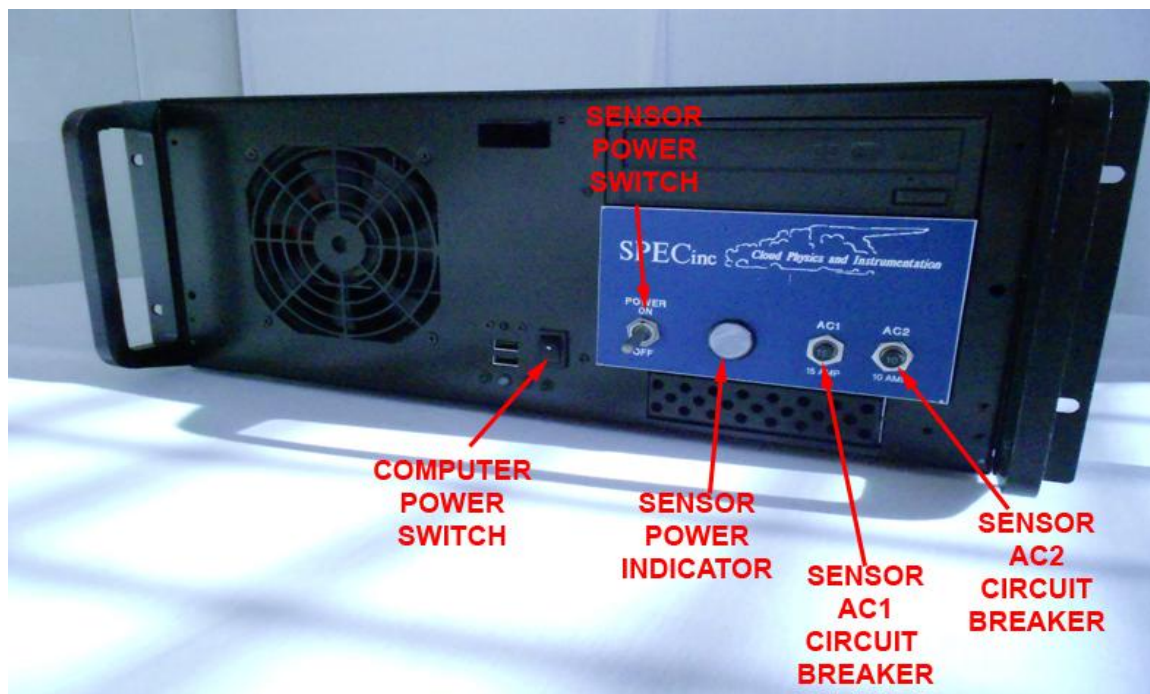

Figure 2.2.1 Front of the Data Acquisition System
See **Figure 2.2.1**: Front of the Data Acquisition System.
1. Verify that the Sensor Power switch on the front of the Data Acquisition System is turned off. Verify that the Data Acquisition System Computer is turned off. See **Figure 2.2.1**: Front of the Data Acquisition System.